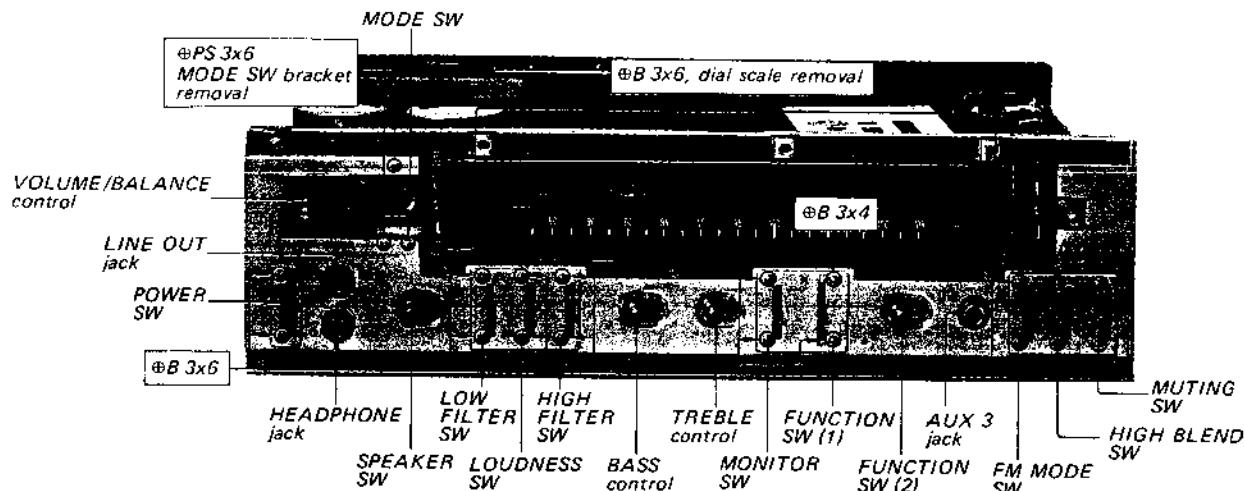

Fig. 2-5 Control and switch replacement
5. Referring to Fig. 2-5, remove the controls or bracket as given in the list below.
2. Remove the two screws (Θ B 3x6) securing the dial-scale holder to the front subchassis as shown in Fig. 2-5.
1. Remove the two screws (Θ B 3x6) securing switches to the front subchassis as shown in Fig. 2-5. Note that the upper screw of FUNCTION switch (1) is (Θ B 3x4).
**SPEAKER, MODE, FUNCTION (2) Switches and
1. Remove the hex nuts that secure the switches or controls to the front subchassis as shown in Fig. 2-5.